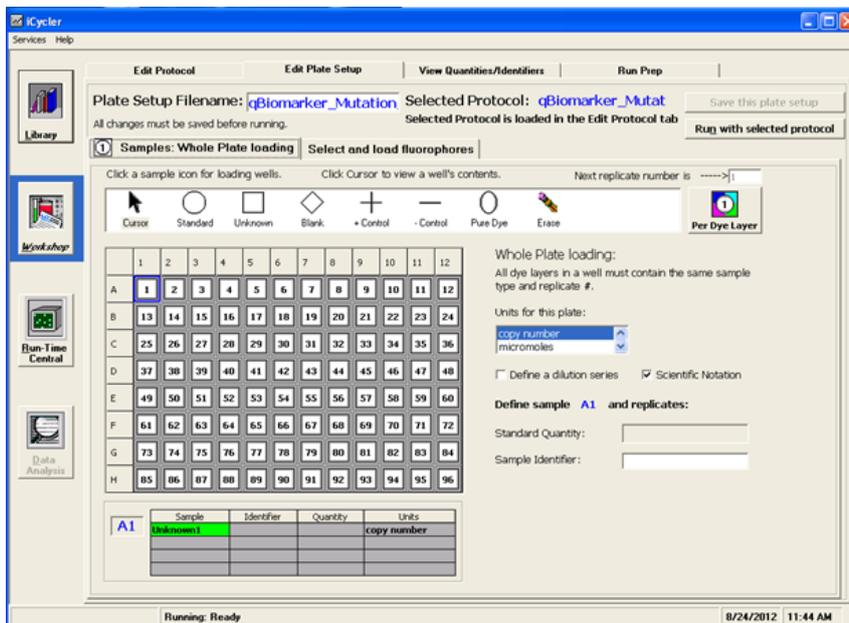

Figure 2. Plate setup (1).
- To set up a template file for "Plate Setup," click on the "Library" module on the left panel and then select the "View Plate Setup" tab; click "Create a New Plate Setup" on the right. This will open the "Edit Plate Setup" tab in the "Workshop" module. Choose the "Whole Plate" mode. In the "Samples: Whole Plate loading" tab (see Figure 2), click to select the icon for "Unknown." In the diagram of the 96-well plate, click on each well one at a time to designate the sample type as "Unknown" and number the well.